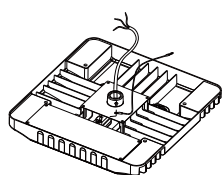

Figure 1
- 1.Fix one side of the accessory safety rope on the back of the fixture(Figure 1).